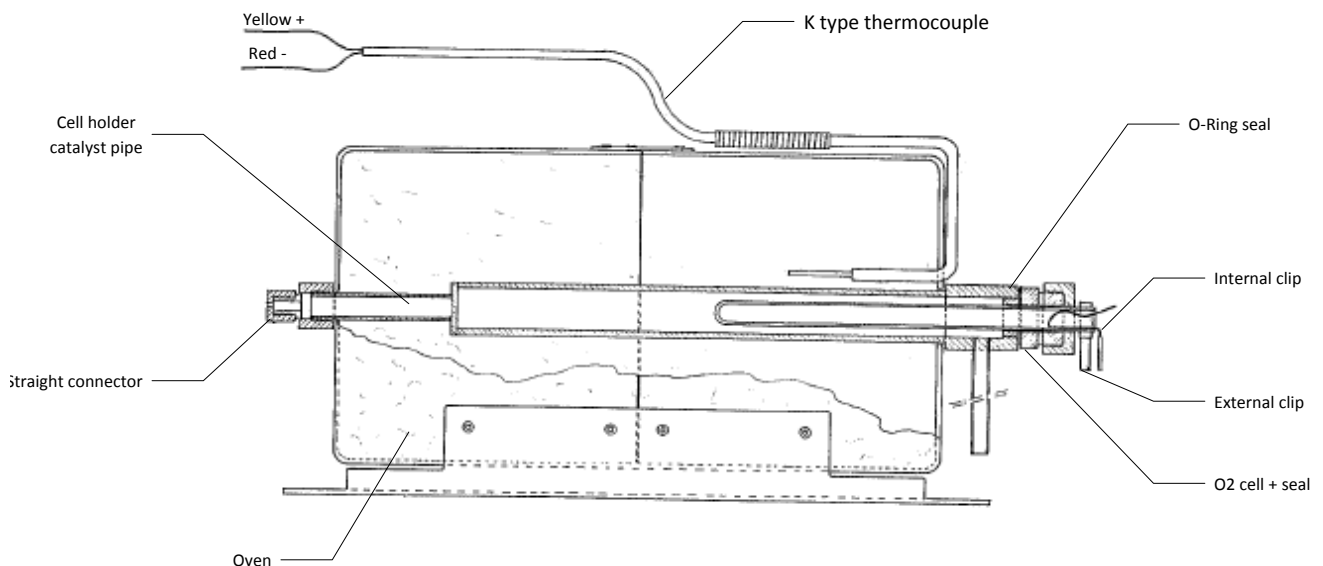

Figure 2
- Proceed to disassembly (cf. Figure 2).